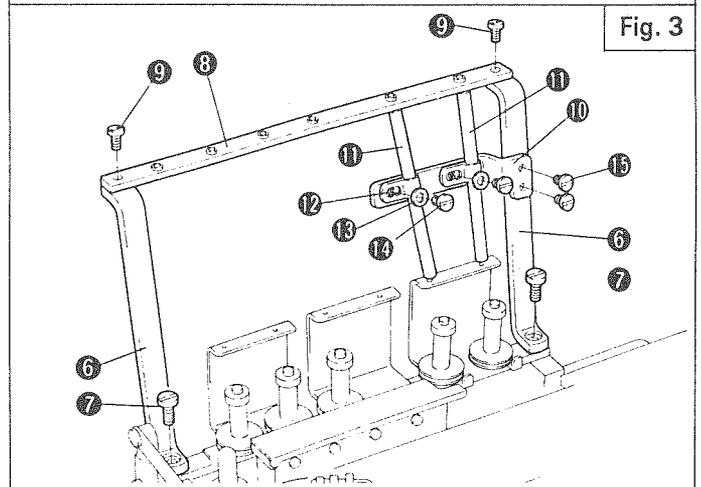

Fig. 3
3. Refer to Fig. 3 and attach Thread Guides ⑥ - ⑮ in sequence.